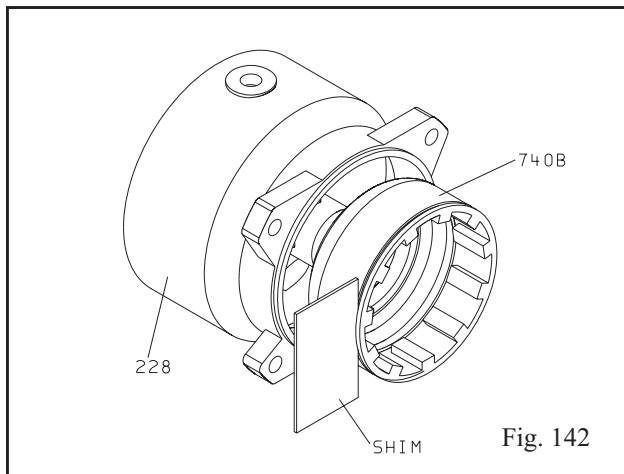
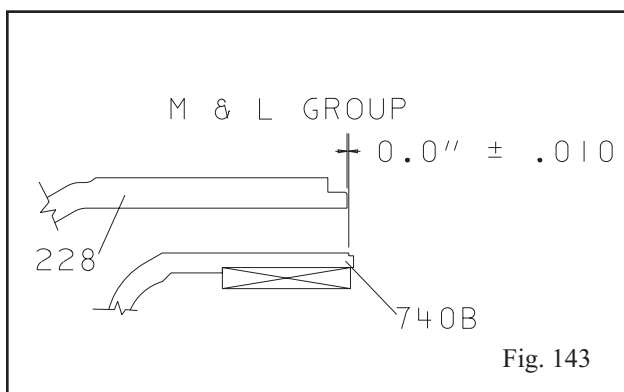

Fig. 142
Fig. 143
20. Install magnet assembly inside the C-face motor support by sliding a 1/8" shim into the groove/notch located in the side of the magnet assembly. Slowly drop in the magnet assembly until the shim is resting on the face of the C-face motor support (Fig. 142). Reference Fig. 143 for installation dimensions.